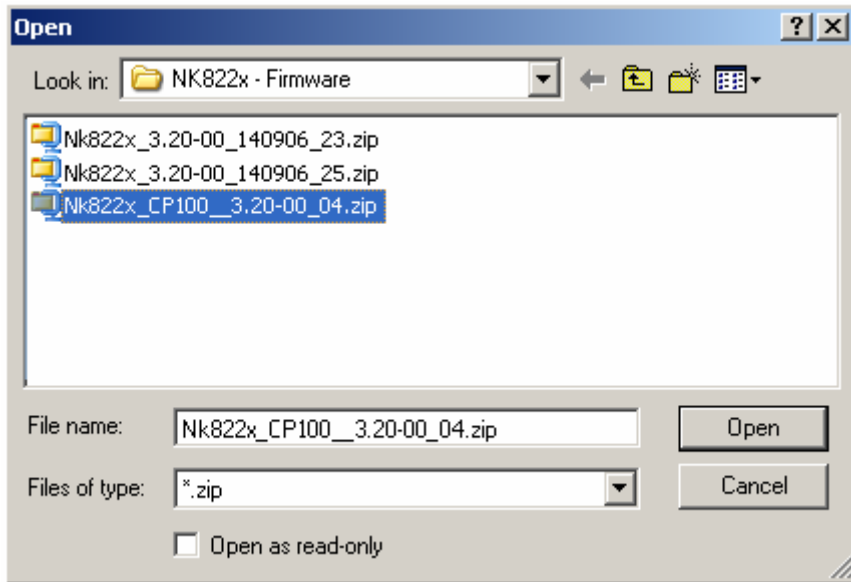

Fig. 10 Opening the new NK822xx firmware files
- And finally click **Open** (Fig. 10).